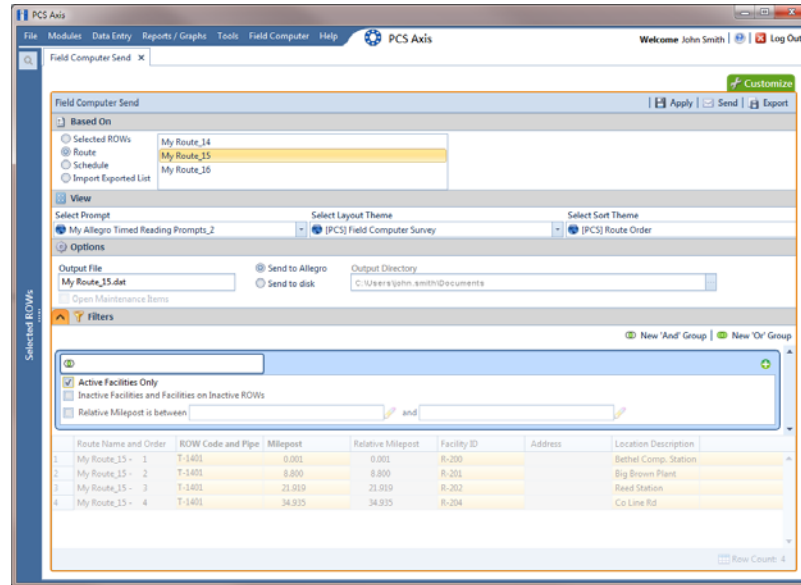

Figure 8-23. Filters
- 22 Click the  **Filters** button to open the *Filters* panel (Figure 8-23).